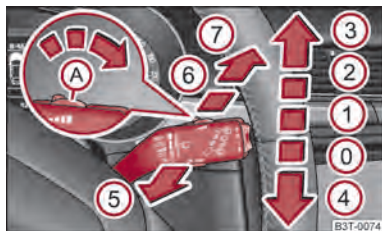

Fig. 51 Windscreen wiper lever
The windscreen wiper lever ⇒ fig. 51 has the following positions:
- If the slower ② ⇒ fig. 51 or the faster ③ wiper setting is switched on and the vehicle speed decreases to below 4 km/h, the lower wiper step is switched on automatically. At a speed increase of more than 8 km/h the previous wiper setting is established again.
If the windshield wiper is in positions ② ⇒ fig. 51 or ③ the rear view window is wiped every 30/10 seconds if the vehicle's speed exceeds 5 km/h.
- Push the operating level into the position ⑥ ⇒ fig. 51 five times in succession within 5 seconds.
The headlights are being cleaned after the windscreen has been sprayed for the first time and fifth time, the low beam or main beam are switched on and the windscreen wiper lever was held in the position ⑤ ⇒ fig. 51 for about 1 second.
- Then press the windscreen wiper lever in the position ④ ⇒ fig. 51 within 10 seconds - the wiper arms move into the service position.